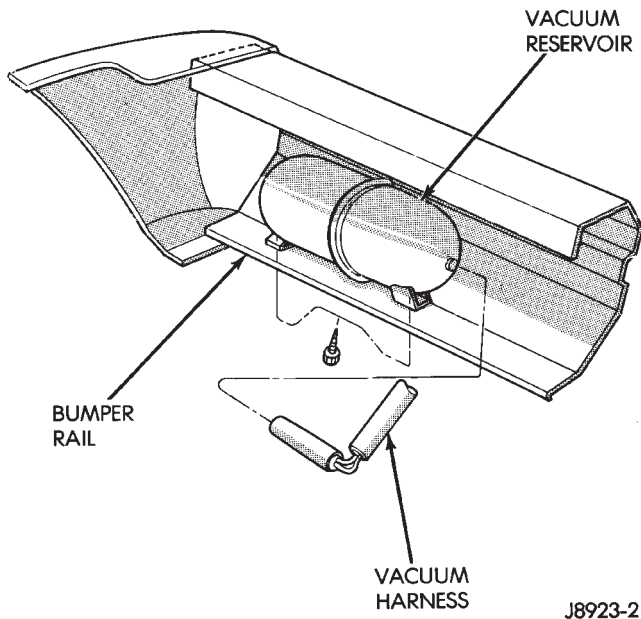

Fig. 2 Vacuum Reservoir—Left Side
(3) Disconnect the vacuum reservoir tube harness connectors (Fig. 2 and 3).